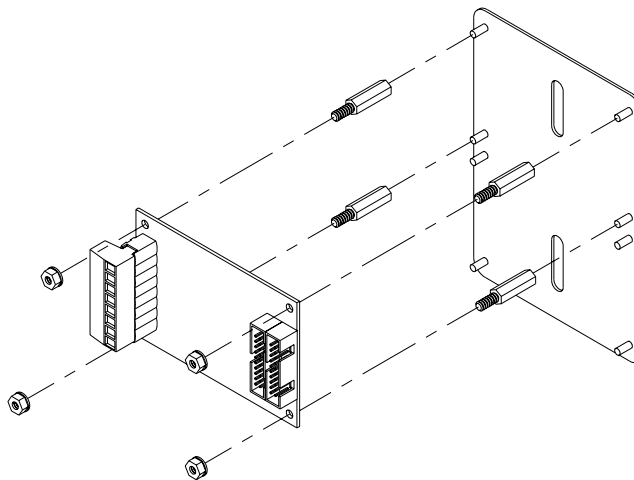

Figure 10-6: Installing an SBM on a Two-Option Mounting Plate
8. Install the four aluminum standoffs included in each 60 Series Option Kit onto the studs on the mounting plate. See Figure 10-6.